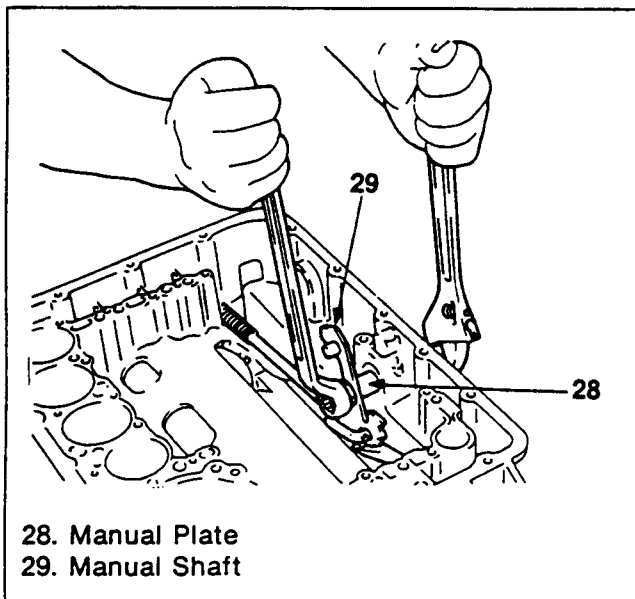

Figure 46. Manual Plate Removal (1)
Manual Plate (Figures 46 and 47)
1. Secure the manual shaft with an adjustable wrench placed on the flat area and remove the lock nut of the manual plate (figure 46).